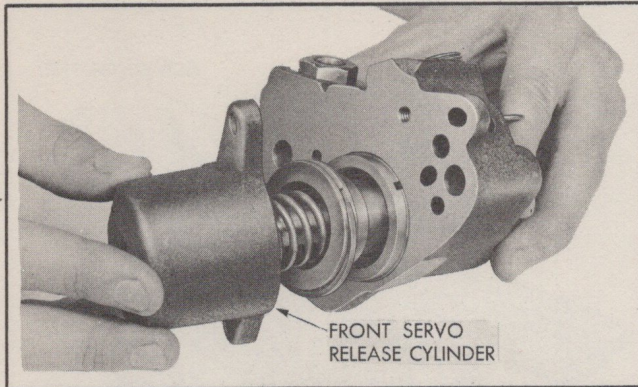

Fig. 32 Installing Front Servo Release Cylinder
8. Install servo release cylinder by carefully starting ring on release piston into release cylinder (Fig. 32).